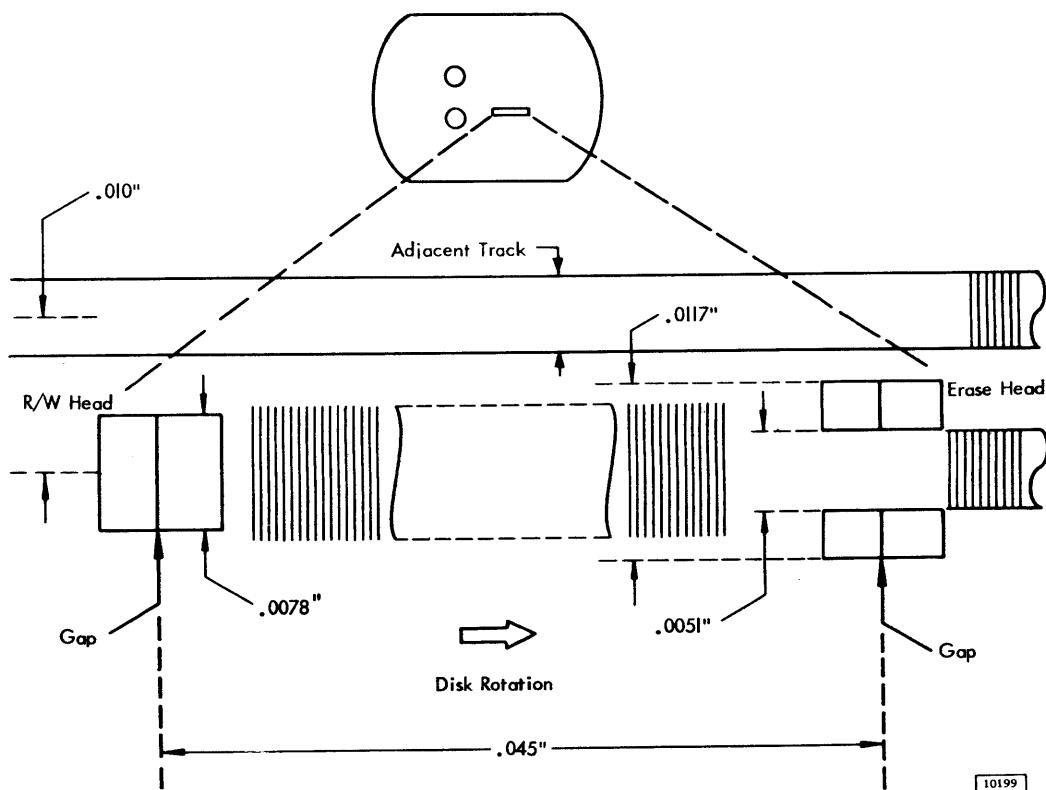

Figure 3-14. Magnetic Head-to-Disk Relationship
The 2311 head is designed with the read/write core ahead of a split erase core (Figure 3-14). This unique design (called tunnel erase) allows the 2311 to write a band of data 0.008" wide then immediately erase it to 0.005" wide. The difference in erase and write width allows for minor deviations in head positioning during subsequent read operations.
- Since the erase coil follows the write coil, the 'selected erase gate' signal continues for approximately 60 μ sec (Figure 3-14) after the 'selected write gate' signal drops.